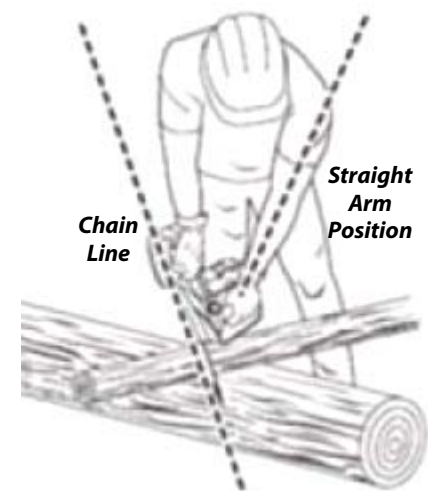

Figure 4
Proper Cutting Stance (Figure 4)
- Take the proper stance in front of the wood with the Saw OFF (**Figure 4**).